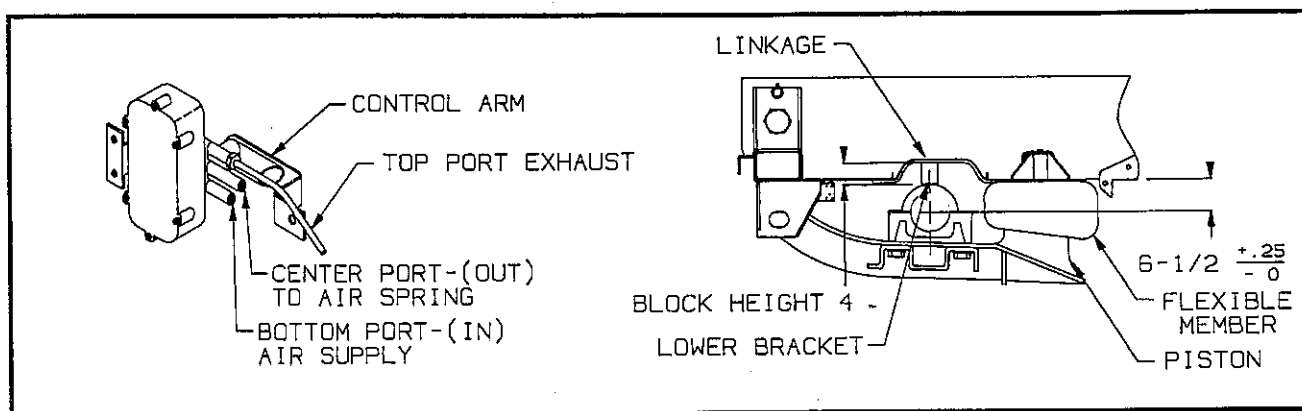

Figure 6-6 Air Ride Adjustment
The following is the procedure for adjusting the air ride height (See **Figure 6-6** for parts identification).
e. Move the control arms to the "down" position (about 45°) for 10-15 seconds. Slowly return the control arms to the center position and insert locating pins into the nylon block and bracket on the automatic height control valves (see **Figure 6-6**).